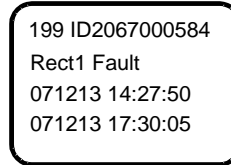

Figure 4-17 History alarm screen
- 2) If there is an active alarm, the screen shown in Figure 4-17 will appear.
If the alarm is a rectifier alarm, the first row in Figure 4-17 will display the latter 10 digits of the rectifier ID.